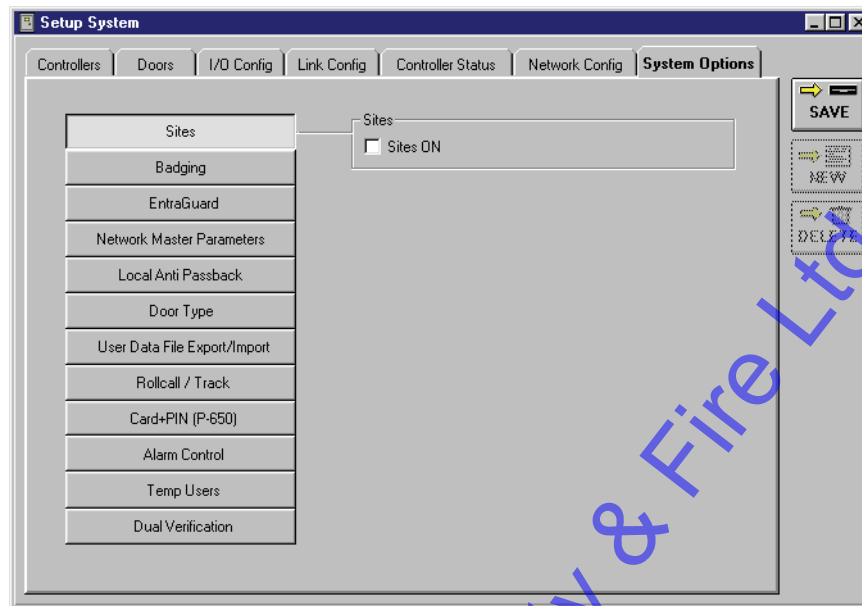

Figure 8-30: System Options Tab - Sites Disabled
- Click the  button. All the site related database fields are now removed, the Sites tab is removed from the setup system window, and the system options window returns to its original state (see Figure 8-30).